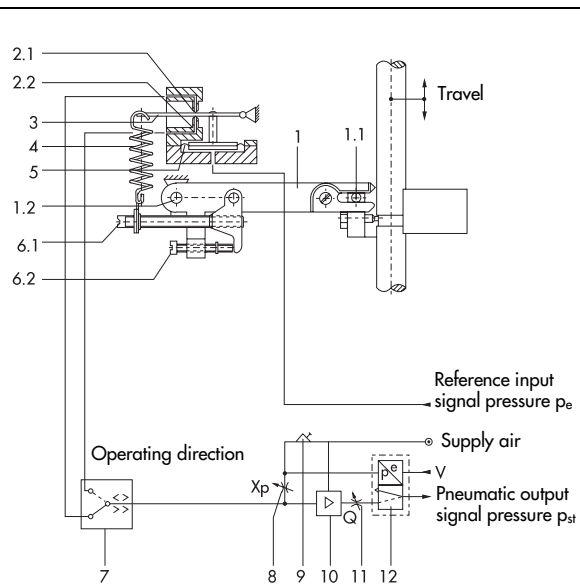
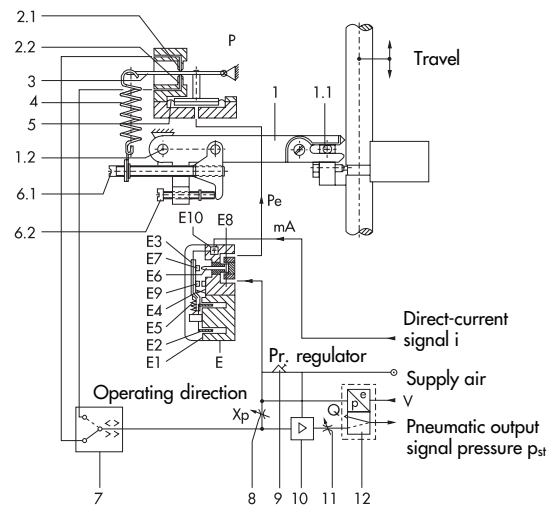

Fig. 6 · Functional diagram of the Type 3766 Pneumatic Positioner (deflection of the pick-off lever when directly attached to the Type 3277 Pneumatic Actuator)
Fig. 7 · Functional diagram of the Type 3767 i/p Positioner
Principle of operation (Figs. 6 to 8)
The only difference between the Type 3766 Pneumatic Positioner (Fig. 6) and the Type 3767 Electropneumatic Positioner (Fig. 7) is that an electropneumatic (i/p) converter (E) has been added to the latter in order to convert the electric signal received from a controller into a proportional pneumatic signal.
With the Type 3767 Electropneumatic Positioner (Fig. 7), the dc current signal (i), which is received from a control device, flows through the plunger coil (E2) in the field of a permanent magnet (E1). On the balance beam (E3), the force, which is proportional to the dc current i , is balanced against the force of the back-pressure which is generated on the flapper plate (E7) by the jet stream leaving the nozzle (E6). Any changes of the current signal proportionally vary the input pressure p_e supplied to the pneumatic control system.
Legend to Figs. 6 to 8